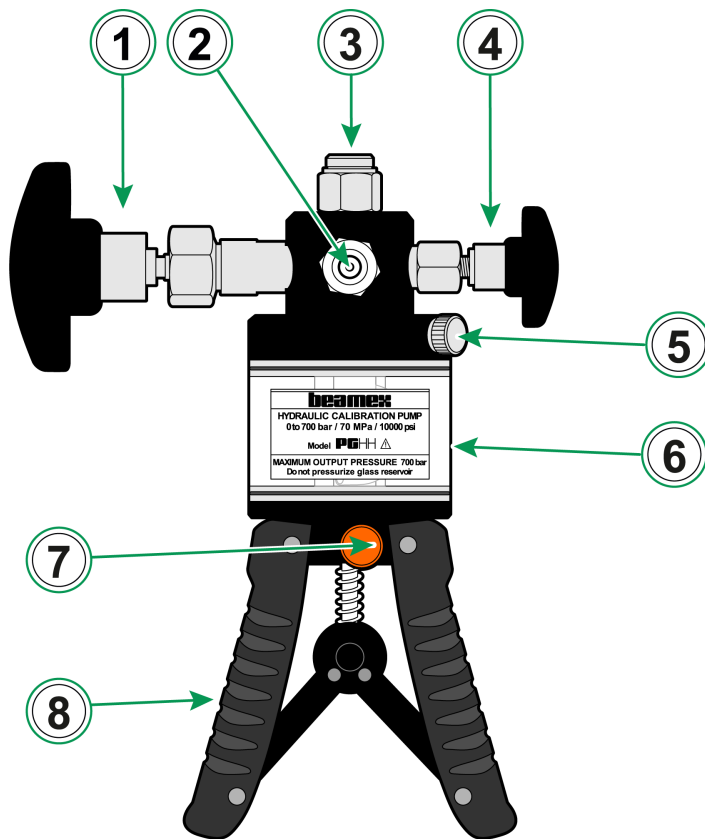
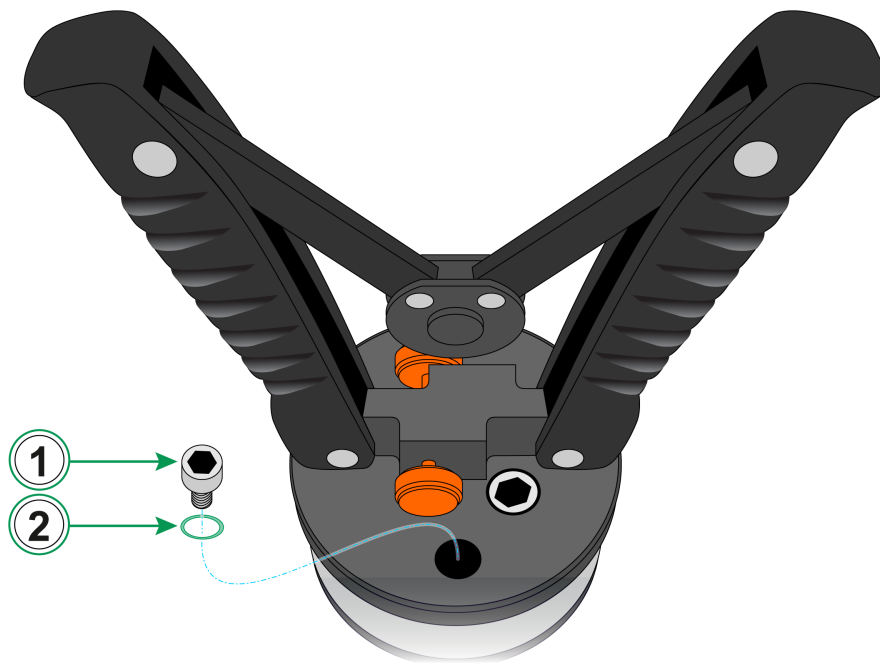
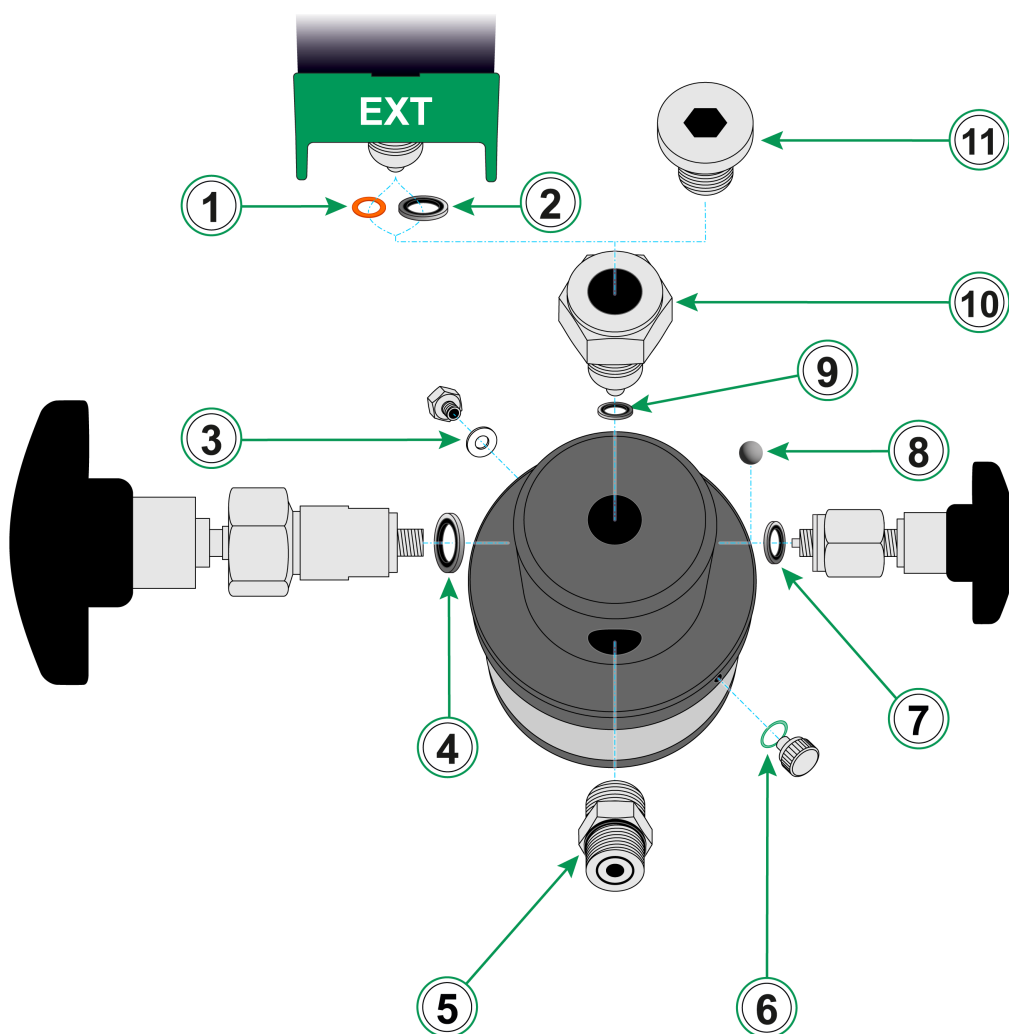
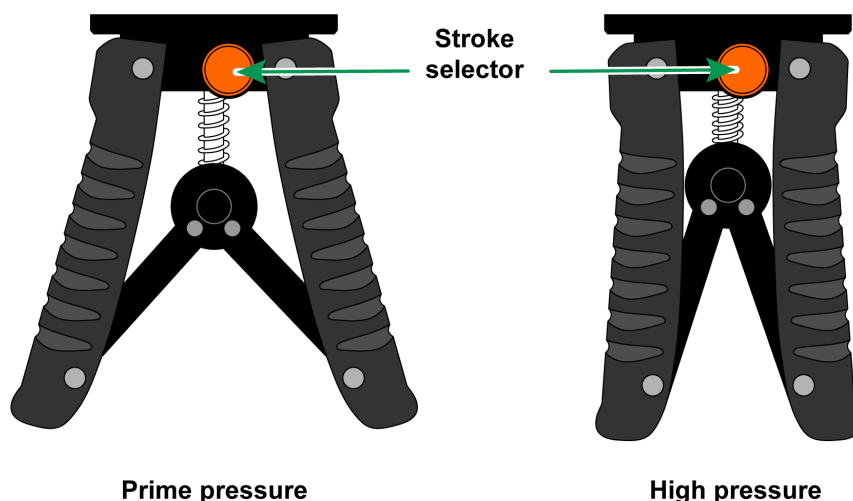

Figure 1: PGHH overview
Figure 2: PGHH, bottom view
Figure 3: PGHH, detailed top view
Figure 5: Selecting prime pressure versus high pressure mode with Stroke selector
For detailed picture of the fittings see Figure 3: PGHH, detailed top view.
1. Remove the **PGHH** G1/4" male pressure plug from the pressure fitting (3 in Figure 1: PGHH overview) on top of the pump.
3. Remove the Reservoir filling plug (5 in Figure 1: PGHH overview). Fill the reservoir (to at least 2/3 and max. 3/4) with the appropriate fluid (don't exceed the maximum level) and fasten the plug.
4. Connect the Pressure Hose to the Bx 1215 fitting (2 in Figure 1: PGHH overview) and leave the other end loose. Adjust the Fine adjust (1 in Figure 1: PGHH overview) to the bottom (fully clockwise). Close the Vent valve (4 in Figure 1: PGHH overview) by turning it fully clockwise.
6. Make sure the Stroke selector (7 in Figure 1: PGHH overview) is set to prime (fully out). If not, squeeze the handles fully and press the Stroke selector (see Figure 5: Selecting prime pressure versus high pressure mode with Stroke selector).
Warning: Do not overtighten the Vent valve (4 in Figure 1: PGHH overview). If overtightened, the Release valve ball (8 in Figure 3: PGHH, detailed top view) or top of the pump may get damaged or even the whole Vent valve may break.
Warning: If the pressure continues to drop steadily, vent the system and check that all the connections are made correctly. Additionally, check the seal 9 and seal 1 or 2 (see Figure 3: PGHH, detailed top view). Change them, if they look worn or damaged.
Warning: Keep the **PGHH** in an upright position during your entire calibration procedure. Upright position will ensure that the replacement air gets in and out of the Reservoir through the Pressure Compensation Screw (3 in Figure 3: PGHH, detailed top view) during generating and releasing the pressure (when the fluid level is decreasing and increasing inside the Reservoir). If the airflow is blocked, the Reservoir may break.
Note: If the **PGHH** is used with the distilled water, remember to empty the Reservoir and let the pump dry out after each use. To empty the Reservoir unscrew the Reservoir filling plug (5 in Figure 1: PGHH overview) and the Reservoir drain screw at the bottom of the Reservoir (1 in Figure 2: PGHH, bottom view).
Note: If Beamex EXT External Pressure Module is connected on top of the pump, you don't need the hose to perform the test and you have to remove it from the fitting for the Pressure Hose (see 2 in Figure 1: PGHH overview).
Additionally, check the condition of the Pressure compensation screw (3 in Figure 3: PGHH, detailed top view). It is important that it works properly and that the replacement air can flow into and out of the Reservoir through the Pressure compensation screw when generating the pressure. If the screw is stuck or clogged, the Reservoir may break. You can check the screw's condition by unscrewing it and blowing compressed air through it from the bottom side. At the same time check with your fingers whether the top part of the Pressure compensation screw is moving slightly, due to the pressure. Otherwise, replace the Pressure compensation screw with a new one.